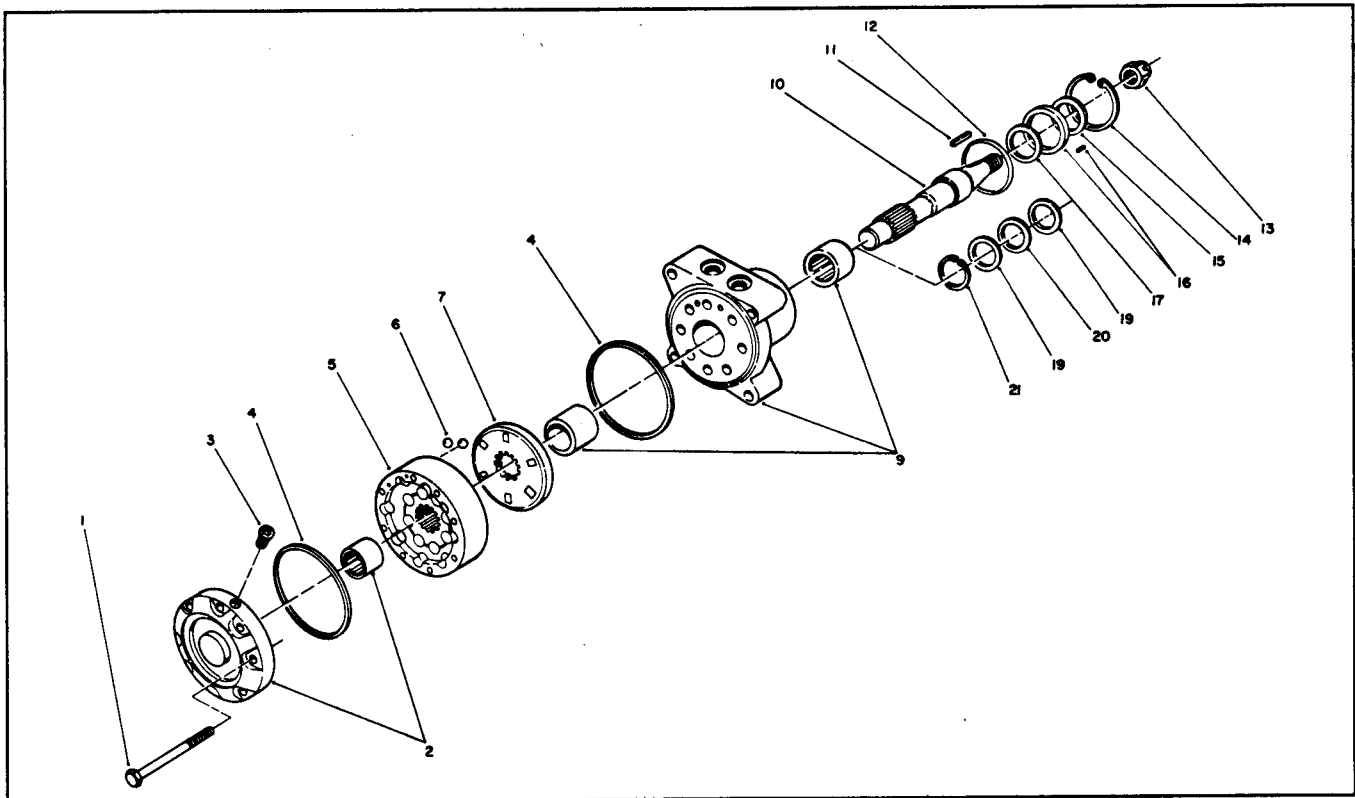

Figure 37
2. Remove key (Figure 37, Item 11) from the shaft.
1. Assemble the thrust washers (Figure 37, Item 19) and thrust bearing (Item 20) on the shaft using the snap ring (Item 21). The snap ring sharp edges **MUST** face away from the thrust washers with the thrust bearing (Item 20) between the washers.
1. Remove the key (Figure 37, Item 11) from the shaft.
3. Insert the shaft (Figure 37, Item 10) and install seals and thrust bearings. (See Assembly of Shaft and Front Seal Assembly under Main Shaft Seal and/or Shaft Replacement.)